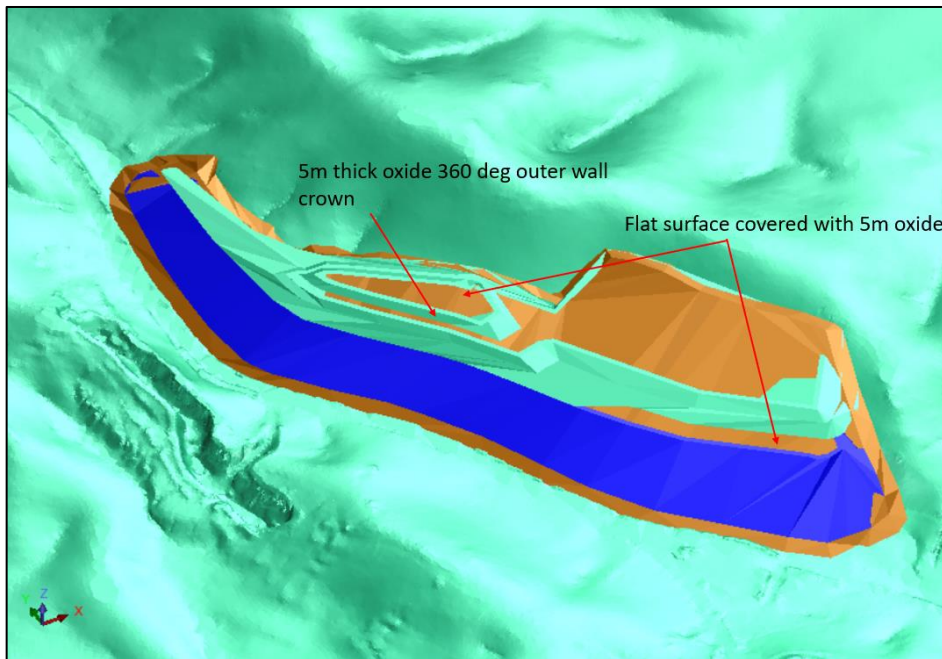

Figure 1-23 North Crown Oxide Component
- Five metre thick North crown of the WRD all sides of the WRD (Figure 1-23); and
- Five metre thick South crown of WRD all sides of the WRD (Figure 1-23).